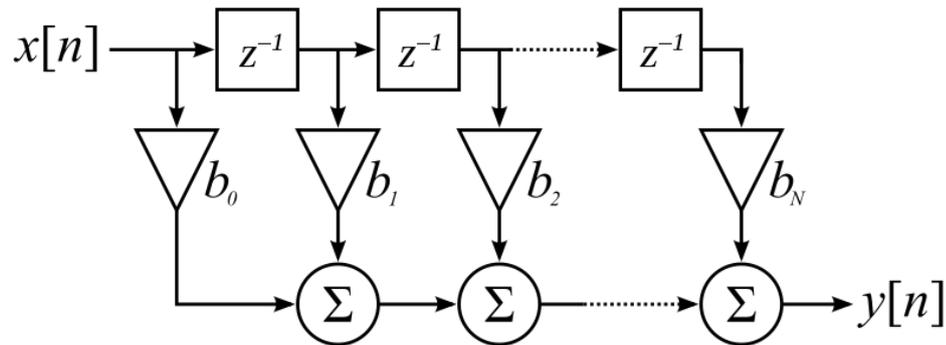

Figure Q4.1
4. Figure Q4.1 shows a generic FIR filter that is widely used for signal processing applications. It is not important to understand the theory behind the filter for this question, as we want to look into the characteristics when implementing the filter on different compute substrates (CPU, DSP, SIMD and FPGA).